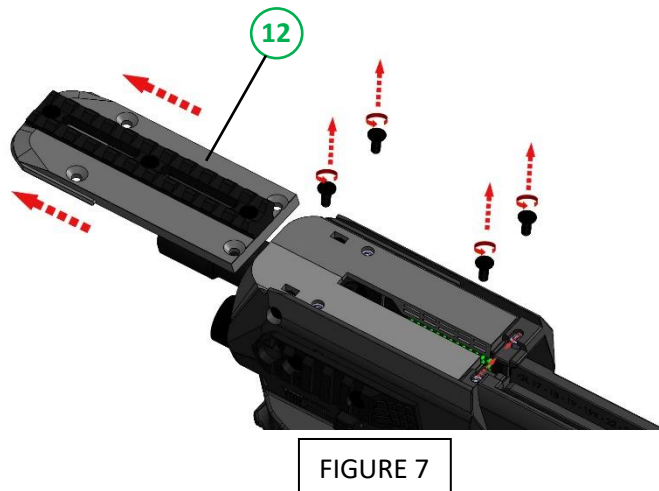

FIGURE 7
If the top picatinny rails are installed, you will need to take them off. Using a 2.5mm Allen wrench, unscrew 8 Allen screws out from their place {4 from the top front picatinny rail (12) (FIGURE 7) and 4 from the top rear picatinny rail (14) (FIGURE 8)}. Make sure to take off the nuts of each screw for future use and store them in a secure area (We suggest using one of the Ziplock bags supplied with the product). Slide out the top front picatinny rail and remove the top rear picatinny rail. **DO NOT TOUCH THE PHILIPS SCREWS IN THE MIDDLE OF THE RAILS**